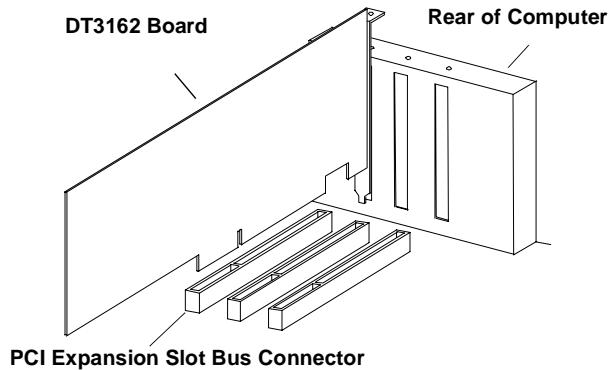

Figure 2: Inserting the DT3162 Board in the Computer
4. Position the board so that the cable connectors are facing the rear of the computer, as shown in Figure 2.